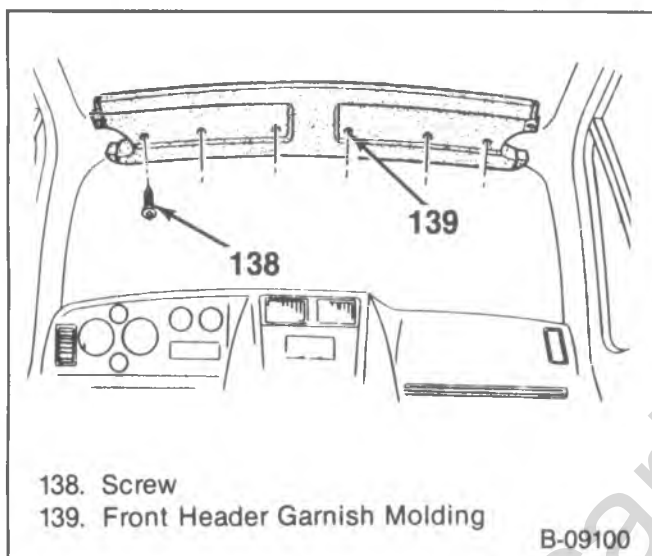

Figure 46—Front Header Garnish Molding
4. Front header garnish molding screws and the front header garnish molding (figure 46).
11. Front header garnish molding and screws (figure 46).